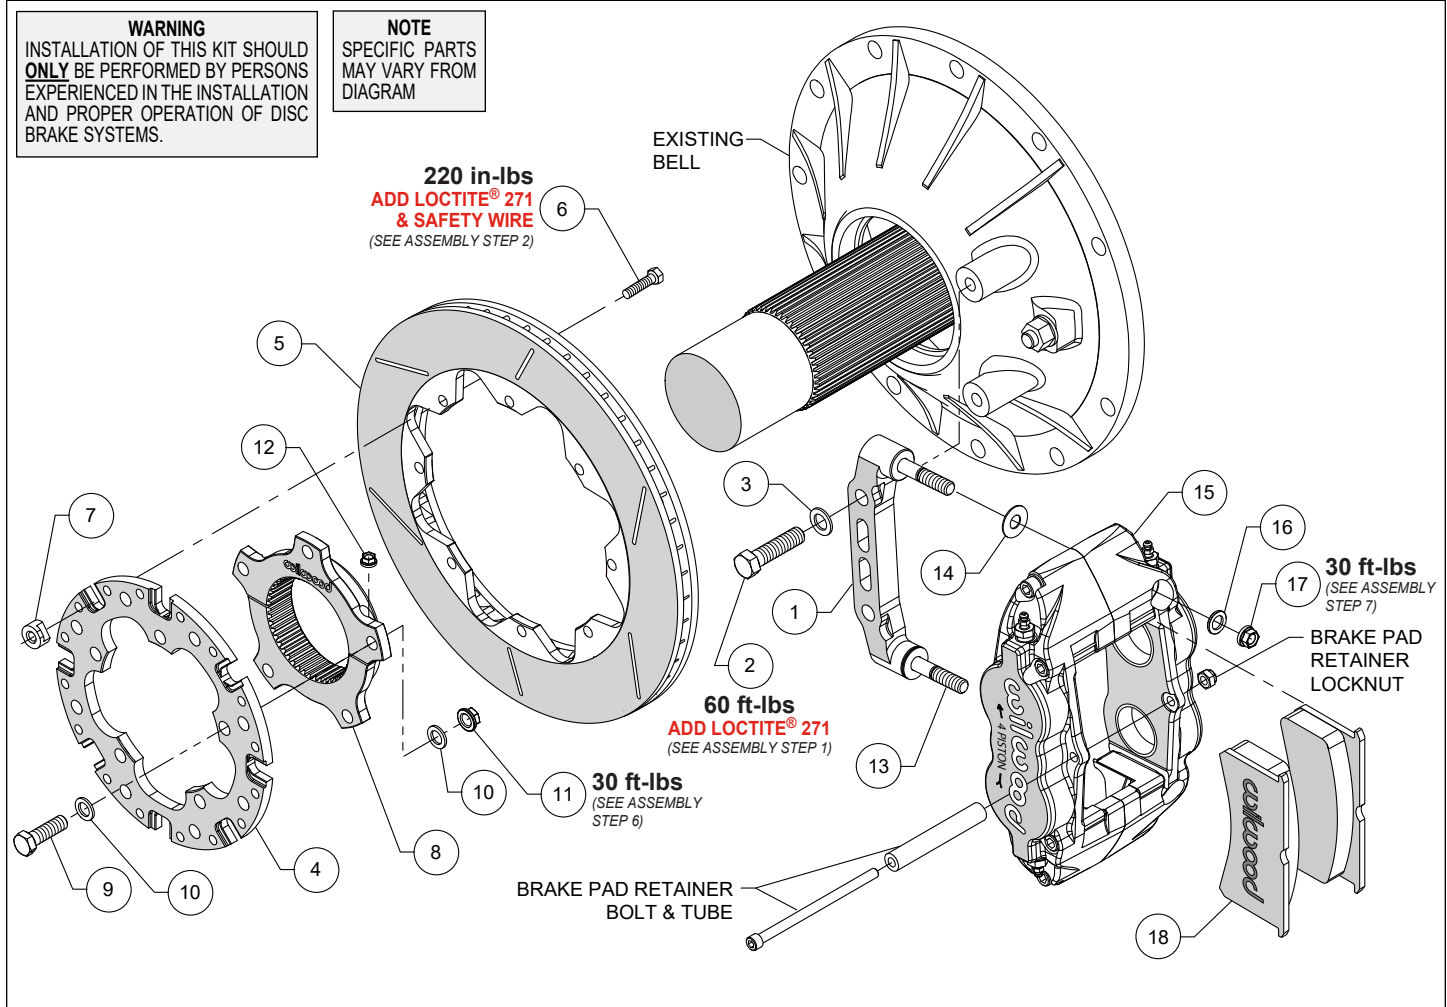

Figure 1. Typical Installation Configuration
NOTE: Numbers in parenthesis refer to the parts list and Figure 1 on the preceding pages.
STEP 1 Orient the caliper mount bracket (1) as shown in Figure 1 and install using bolts (2) and washers (3). Temporarily tighten the mounting bolts. **NOTE:** The bracket must fit squarely against the mount bosses on the bell. Inspect for interference from casting irregularities, machining ridges, burrs, etc. Remove the bracket mounting bolts one at a time, apply red *Loctite*® 271 to the threads, and torque to value shown in Figure 1.
STEP 2 Orient the rotor adapter (4) and the rotor (5), as shown in Figure 1, and attach using bolts (6) and t-nuts (7), Figure 1. Apply red *Loctite*® 271 to the bolt threads before installing. Finger tighten. After all t-nuts have been installed, torque bolts to value shown in Figure 1 using a criss-cross pattern. Please refer to
STEP 4 Orient the axle clamp assembly (8) as shown in Figure 1 and install onto the rotor adapter (4) using bolts (9), washers (10), and lock nuts (11). Tighten lock nuts part way while still allowing clamp-to-rotor movement. The lock nuts will be final tightened later, after aligning the rotor. **NOTE:** The axle clamp should be positioned inside of the rotor as shown in Figure 1, not offset, or outside of the rotor adapter.
STEP 6 Initially place one .035" thick shim (14) on each stud (13) as shown in Figure 1. Mount the caliper (15) onto the bracket (1) using washers (16) and lock nuts (17), Figure 1. Temporarily tighten the lock nuts (17) and view the rotor through the top opening of the caliper. The rotor should be centered in the caliper. If not, slide the rotor/adapter assembly on the axle until the rotor is centered in the caliper. Tighten the clamp lock nuts (12) first, Figure 1, locking the clamp to the axle. Torque rotor adapter lock nuts (11) to value shown in Figure 1.
STEP 7 Remove the caliper brake pad retainer bolt, tube, and locknut from the caliper. Insert the brake pads (18) into the caliper, with the friction material facing the rotor. Check that the top of the brake pad is flush with the outside diameter of the rotor. If not, adjust by adding or subtracting shims (14) between the caliper and the bracket. After the caliper pad height is set, torque the caliper locknuts (17) to value shown in Figure 1. Secure the brake pads in place with the brake pad retainer tube, bolt, and locknut. The locknut should be snug without play in the bolt or tube. Be cautious not to over tighten.